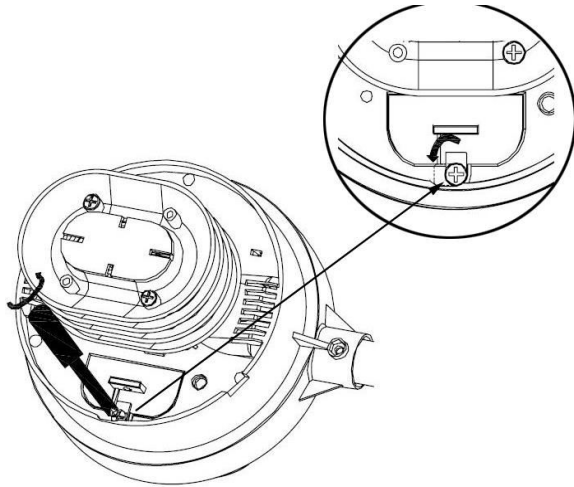

Figure 1
1. Turn the screwdriver counter clockwise to loosen the screw, turn aside the sheet metal (figure 1)